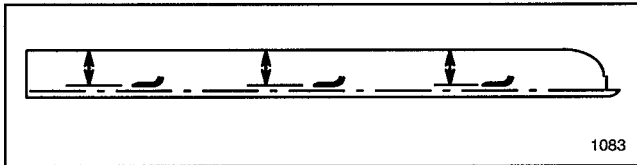

Figure 14
2. Rotate blade(s) until the ends face forward and backward. Measure from inside of cutting unit to cutting edge at front of blade (Fig. 14), and remember this dimension.